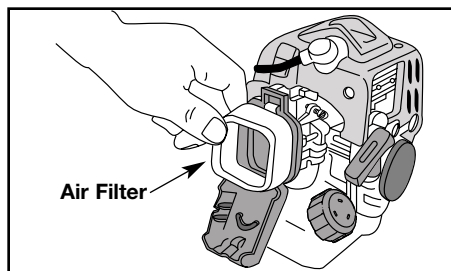

Fig. 25
2. Remove the air filter (Fig. 25).
6. Reinstall the filter (Fig. 25) and air filter cover.